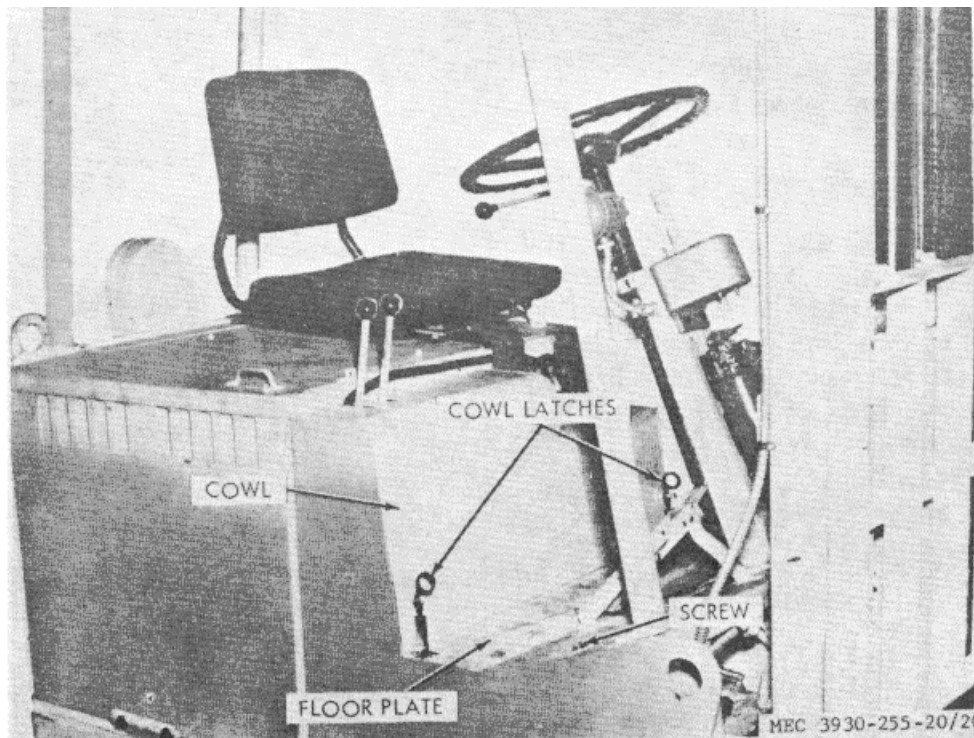

Figure 20. Floor plate removal.
- (1) Unhook cowl latches (fig. 20) and lift cowl free of truck.
- (2) Remove two screws at front of floor plate, and lift off floor plate.